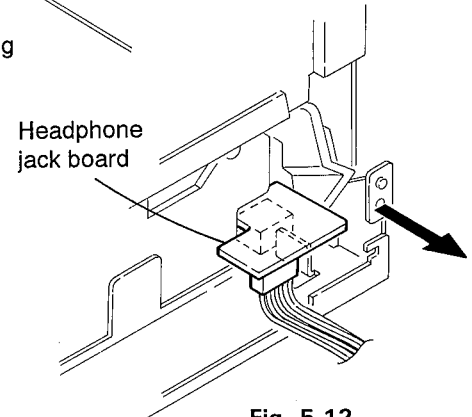

Fig. 5-12
4. When the door holder has been removed from front panel and made free, then the headphone jack P.C. board can be removed. After shifting the door holder toward the rear side to obtain a space sufficient for easily removing the headphone jack P.C. board toward the rear side, remove the holder (See Fig. 5-12).